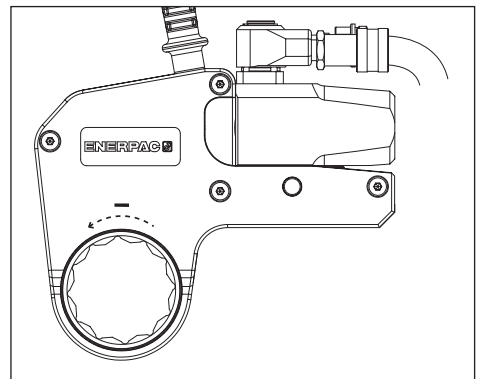

Fig. 9
4.3.3 Loosening a Nut or Bolt (Fig. 9 and 10)
- Position the reaction foot (17) against a suitable reaction point (18). The reaction point will counteract the force caused by operating the tool.